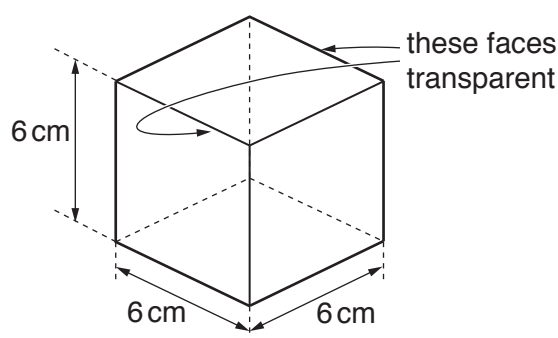

Fig. 2.1
- The container should be large enough for the lens to fit in vertically, with flat faces parallel to the lens. These faces must be transparent (e.g. clear acrylic). Approximate internal dimensions are shown in Fig. 2.1.